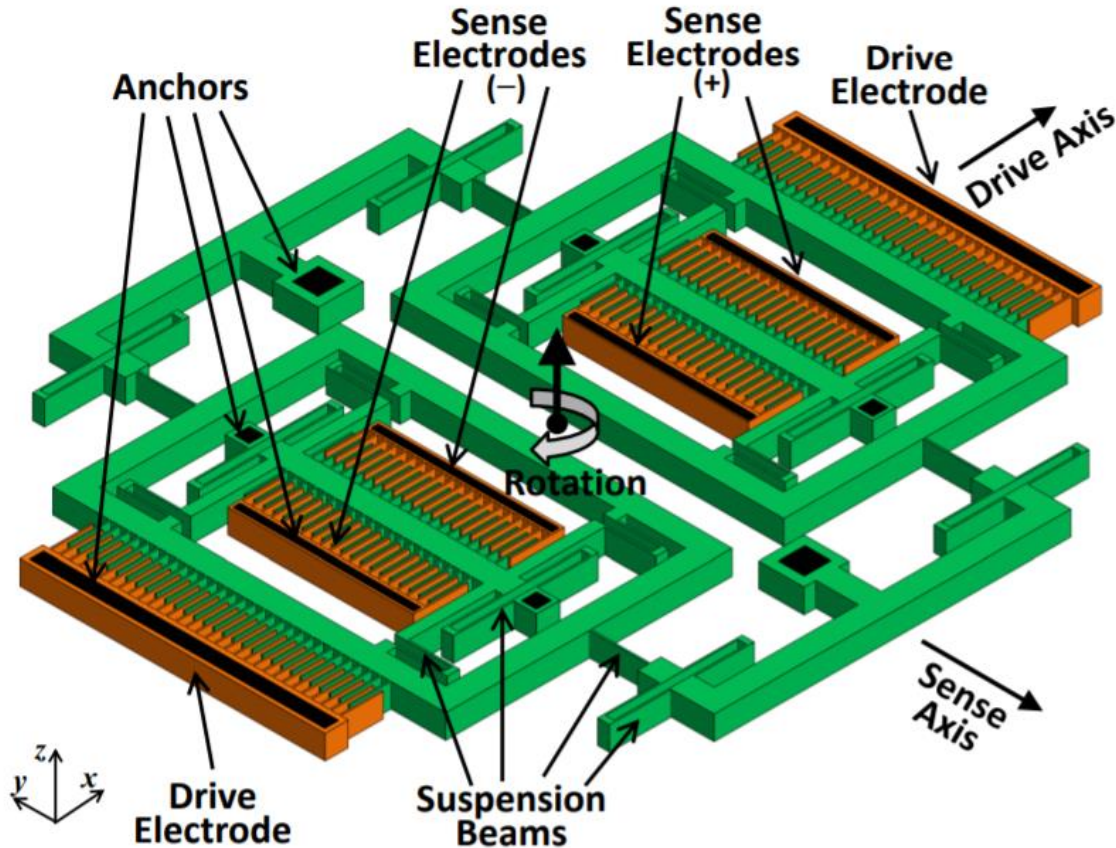

Fig. PS7.1 – Perspective view of the gyroscope
This problem involves the MEMS-based micro-gyroscope as shown in Fig. PS7.1. In this device, momentum is generated by driving the proof mass into resonance vibration using the capacitive comb fingers along the x-axis. When the device is rotated about the z-axis (indicated in Fig. PS7.1), the vibrating mass will attempt to preserve its momentum in the original x-direction, which will then make the mass appear to deflect in the y-direction. This y-directed motion is then sensed by parallel-plate capacitors to determine rotation rate. In quantitative terms, the angular velocity  $\Omega$  about z-axis generates a *Coriolis Force* ( $F = 2m_s\dot{x}_d \times \Omega$  where  $m_s$  is the equivalent mass in the sense mode, and  $\dot{x}_d$  is the structure velocity in the drive mode) along the y-direction that drives the proof mass into y-directed vibration. The amplitude of the vibration is then picked up by the varying gap capacitances.
6. If the device is subjected to a rotation rate of  $\Omega = 1$  rad/s along the z-axis indicated in Fig. PS7.1, what is the magnitude of the output voltage  $V_{out}$  if  $R_1$  is set to  $0 \Omega$  and  $R_2$  is set to  $10$  k $\Omega$ . Assume the differential amplifier employs an ideal op-amp.